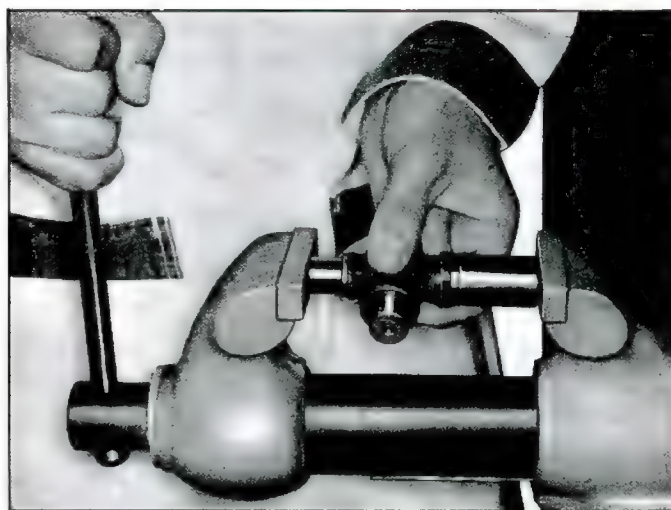

Fig. 5—"U" Joint Trunnion Seal Installation
5. Place new dust seals on trunnion finger—cavity of seal toward end of trunnion—then position Tool J-21548 over end of trunnion and into cavity portion of seal. Press seal onto trunnion until tool bottoms against trunnion finger.(fig. 5).